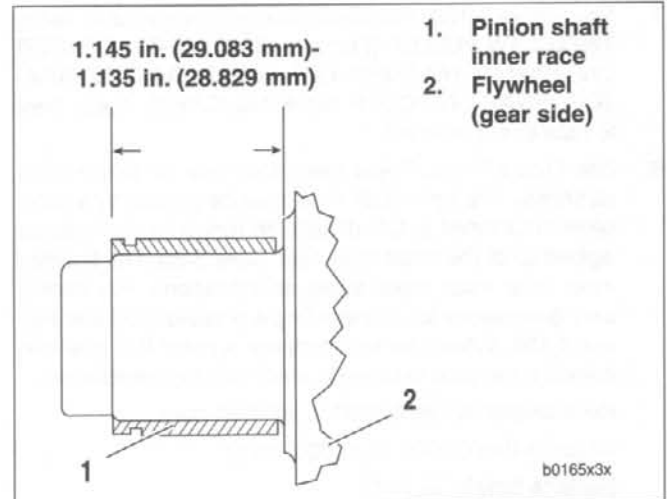
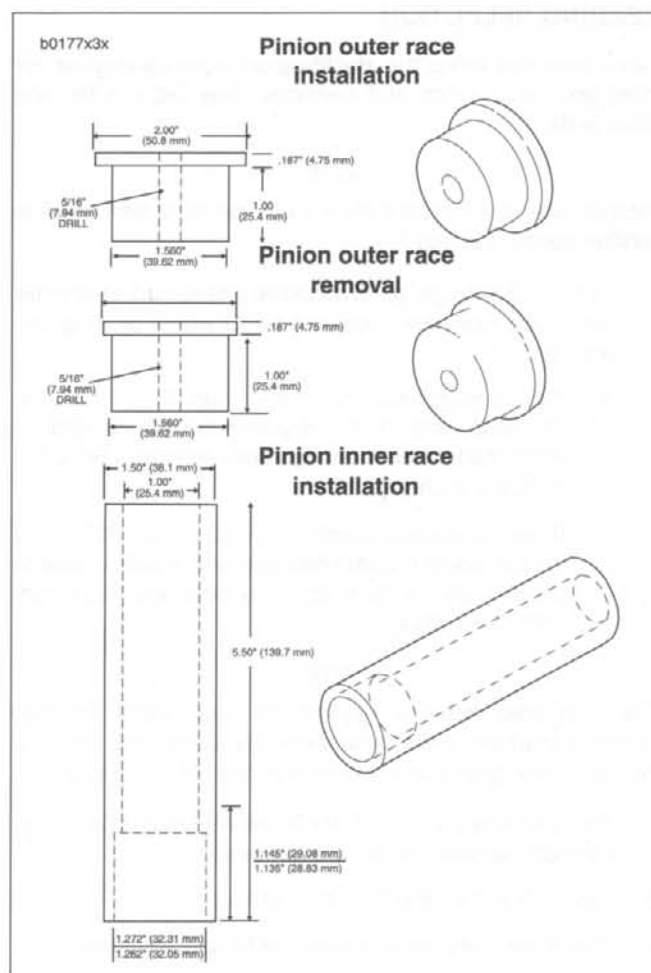

Figure 3-137. Inner Race Location
Figure 3-138. Pinion Shaft Bearing Tools
See Figure 3-137. Pinion bearings are identified as shown.
See Figure 3-138. Dimensions are shown for fabrication of tools used in pressing the outer race into or out of crankcase.
8. See Figure 3-137. Press **new** inner race on pinion shaft as shown. The **new** inner race must be ground by a competent machinist to OD dimension range for the finished lapped ID of the outer race. See Table 3-20. The finished inner race must meet these specifications. For necessary dimensions for constructing a press-on tool see Figure 3-138. When the tool bottoms against the flywheel, correct inner race location is automatically established.